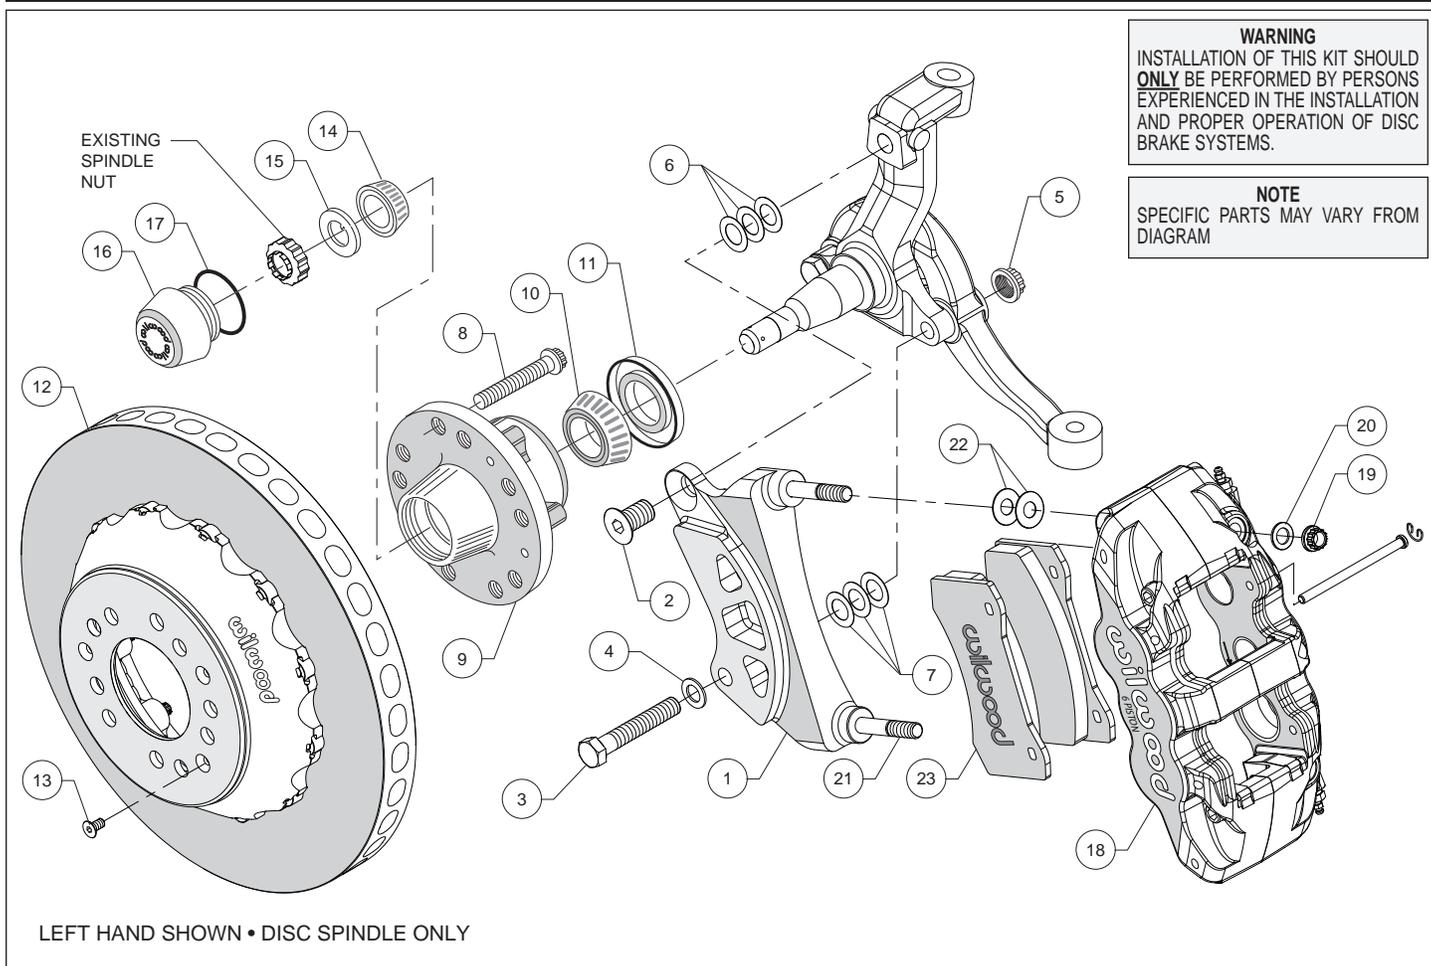

Figure 1. Typical Installation Configuration
Assembly Instructions (numbers in parenthesis refer to the parts list on the preceding page, and Figure 1):
- The caliper mount bracket (1) should initially be installed with clean, dry threads on the mounting bolts. Orient the bracket as shown in Figure 1, and install using bolts (2 and 3), washer (4) and lock nut (5). Initially place three .015 thick shims (6) on the top bolt and three .015 thick shims (7) on the bottom bolt between the bracket and spindle, Figure 1. Tighten the mounting bolts and temporarily install the new hub (9) and rotor (12). Check that the bracket is parallel to the rotor, Photo 3. If not, adjust by adding shims on the top **or** bottom bolt to square up the bracket. **NOTE:** *The bracket must fit squarely against the mount bosses on the spindle.* Inspect for interference from casting irregularities, machining ridges, burrs, etc. Later, after the caliper offset has been checked, the mount bolts will be secured using red *Loctite*® 271.
- NOTE:** *This kit contains distinct right and left hand calipers that must be mounted in a specific direction, as described below.* Lubricate the caliper mounting studs (21) with lightweight oil. Initially place two .030" thick shims (22) on each stud between the caliper and the bracket, as shown in Figure 1 and Photo 4. Mount the caliper (18) onto the bracket (1) using lock nuts (19) and washers (20), Figure
- Final install the hat/rotor (12) onto the hub (9) taking care to align the small countersunk holes in the hat with the small threaded holes in the hub. **NOTE:** The hat must fit flush against the hub face or excessive rotor run out may result. Install three flat head screws (13) through the small holes in the hat, Photo 7, and torque to 85 in-lb.
- Remove the two pad retaining pins from the caliper by carefully popping out the pin retaining clips and sliding out the pins. Insert the brake pads (23) into the caliper from the bottom, Figure 1 and Photo 8. With the friction material facing the rotor, secure the brake pads in place with the pad retaining pins and clips, Photo 9. Reinstall the caliper onto the caliper mounting bracket and temporarily tighten the lock nuts. Check that the top of the brake pad is flush with the outside diameter of the rotor, Photo 10. If not, adjust by adding or subtracting shims (22) between the caliper and the bracket. After the caliper pad height is set, torque the caliper lock nuts (19) to 47 ft-lb.